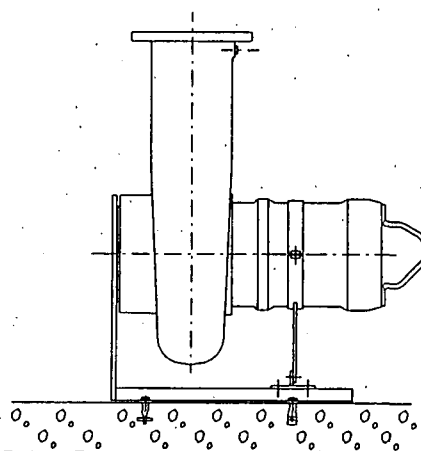

Figure 5.4 Pump version 6.
- Version 6** Horizontal dry installation with stand. Permanent installation in dry well with pump connected to suction line and rising main by bolted flange connections. Pump motor cooling is by means of a cooling jacket encasing the motor stator housing. Please refer to Figure 5.4 for details.